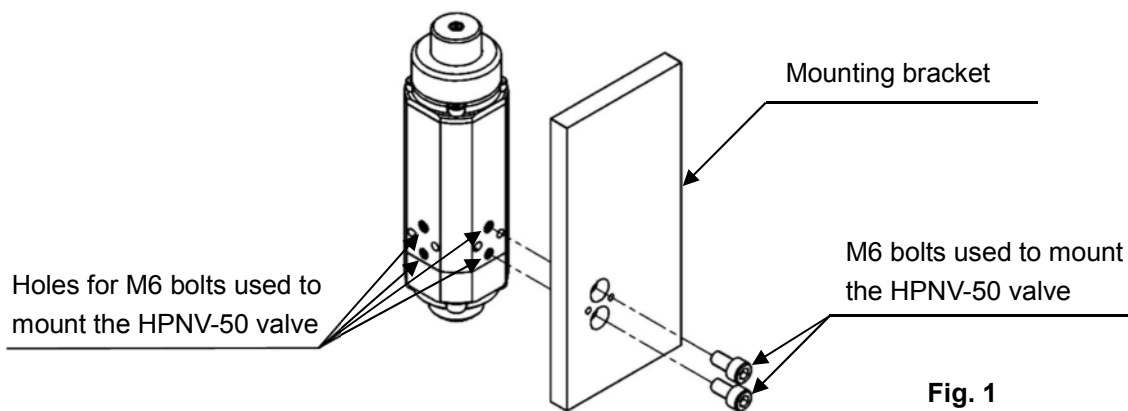

Fig. 1
- Use two or four M6 bolts to mount the HPNV-50 valve (see **Fig. 1**).